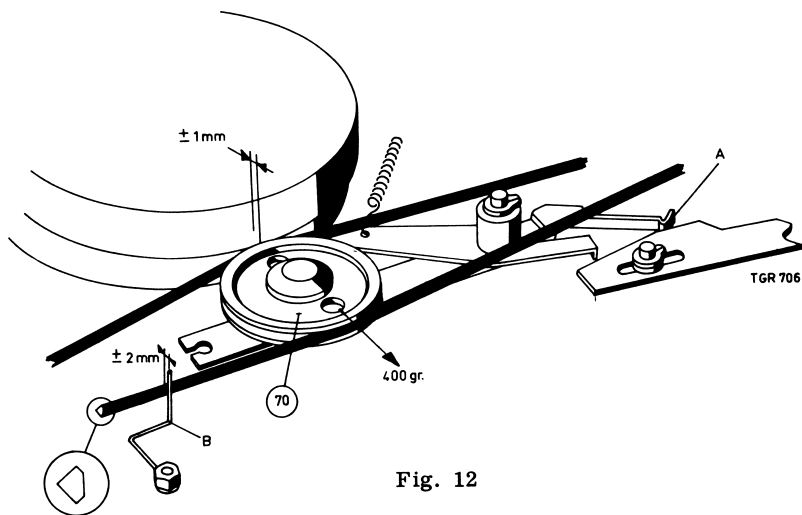

Fig. 12
- Loosen the nut of cord-protection bracket B, see Fig. 12.
- Remove the drive cord, item 68.
- Loosen the screws, item 33.
- Remove both springs, item 116 and 124.
- The gap between the ends of bracket B see Fig. 12 should be approx. 2 mm.
Note: The cord should run across both pulleys and the drive wheel, with its bevelled side pointing outward, see Fig. 12.
Adjustments at rewinding, see Fig. 12